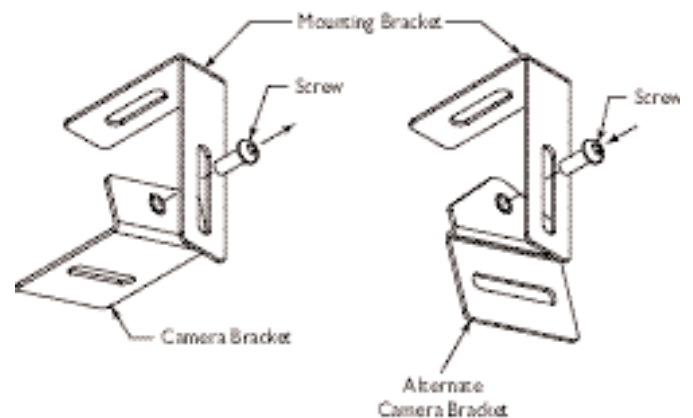

Figure 8 Alternate Camera Mount
1. If the installation requires the unit to be mounted horizontally on a wall, remove the camera bracket from the mounting system and attach the alternate camera bracket provided in the hardware kit. See **Figure 8**.